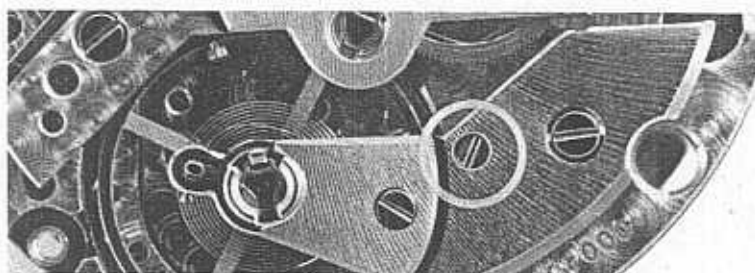

Fig. 9
- Check the balance endshake, which can be corrected by means of the screw (No. 55005-1) for adjusting the height of the balance bridge (fig. 9).